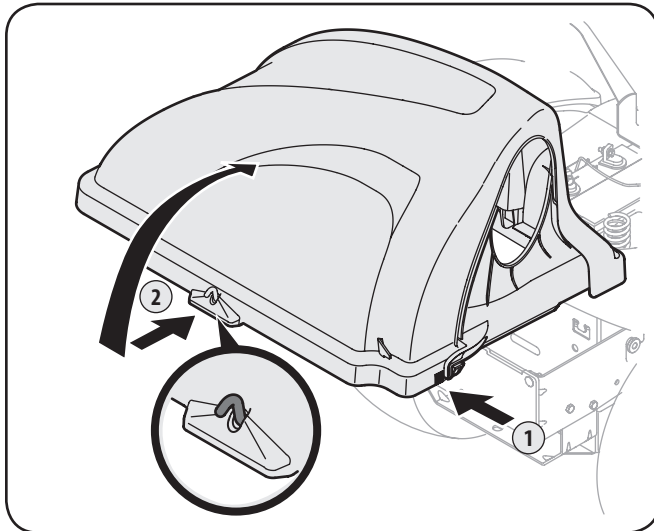

Figure 4-17
7. Open Hood by pushing in on the rear, right-side tab with your right hand, as seen in 1 of Fig. 4-17, and lifting the cover with your left hand in the center rear of the bagger cover, 2.